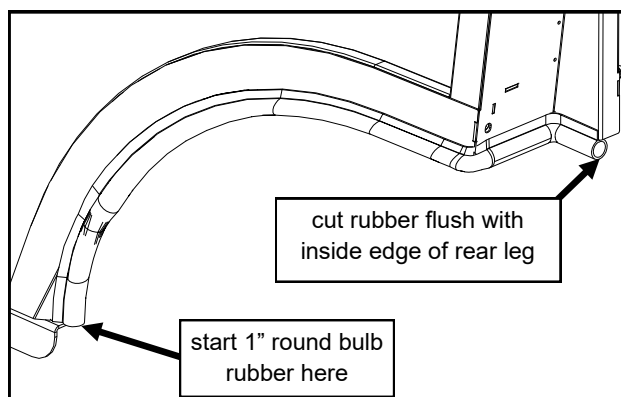

Fig. 4.3 (1" round bulb rubber installed - left)
4.3 Starting at the floorboard of the left sideframe, install the 1" round rubber provided onto the sideframe, continue up the sheetmetal edge of the sideframe and then onto the rear leg. Cut the rubber flush with the inside rear flange of the rear leg. See fig. 4.3.